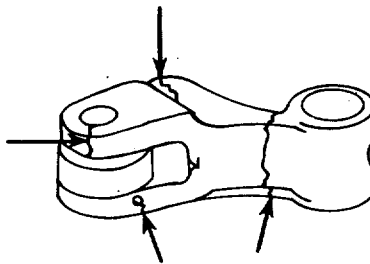

FIGURE 4-20. Inspecting Levers for Cracks.
- (2) Inspect the cam follower housing for cracks or other damage. Discard if damaged or worn.
- (3) Check the bushing in the cam follower lever for scratches or other damage.
- (4) Use a magnetic inspection method to check the levers for cracks (FIGURE 4-20).